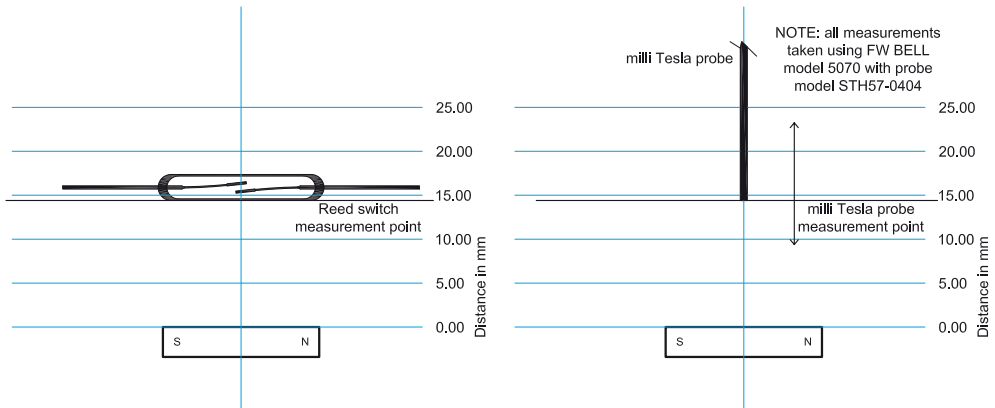

Figure 1. Presentation of the equipment and test layout in which the magnetic data was taken using a linear micrometer.
2. Using a linear micrometer table, with a 120 mT AlNiCo 5 magnet measuring 4 mm by 19 mm in length, mounted at its axis origin, the magnetic field strength was measured (in mT) at regular mm intervals along the linear axis. (See Figure 1). Here it is very important not to have any ferromagnetic material as part of the test setup or anywhere near